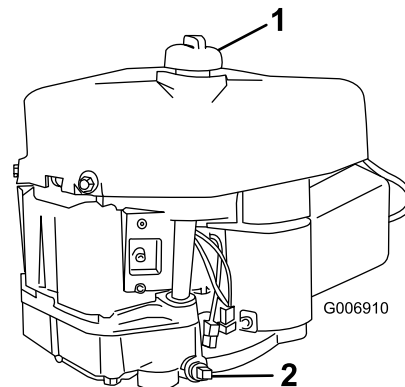

Figure 17
6. Clean around the oil dipstick (Figure 17) so that dirt cannot fall into the fill hole and damage the engine.
- Place a drain pan below the oil drain plug and remove it (Figure 17).
- Slowly pour approximately 80% of the specified amount of oil into the fill hole (Figure 17). Check the oil level; refer to 4 and 5 of Checking the Oil Level.
- Slowly pour about 80% of the specified amount of oil into the fill hole (Figure 17). Check the oil level; refer to 7 and 8 of Checking the Oil Level.